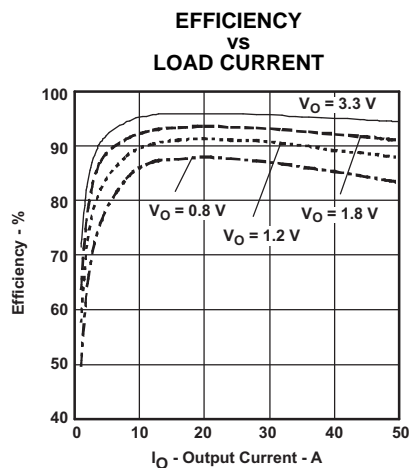
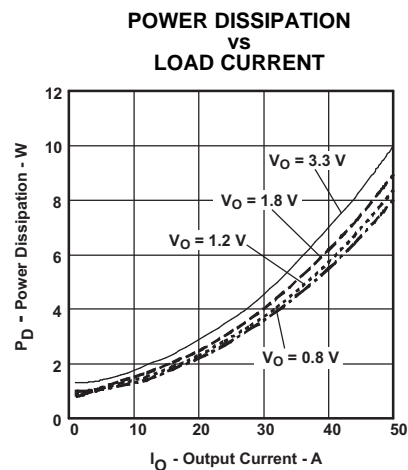

Figure 6.
Figure 7.
- (3) The electrical characteristic data has been developed from actual products tested at 25°C. This data is considered typical for the converter. Applies to Figure 6, and Figure 7.